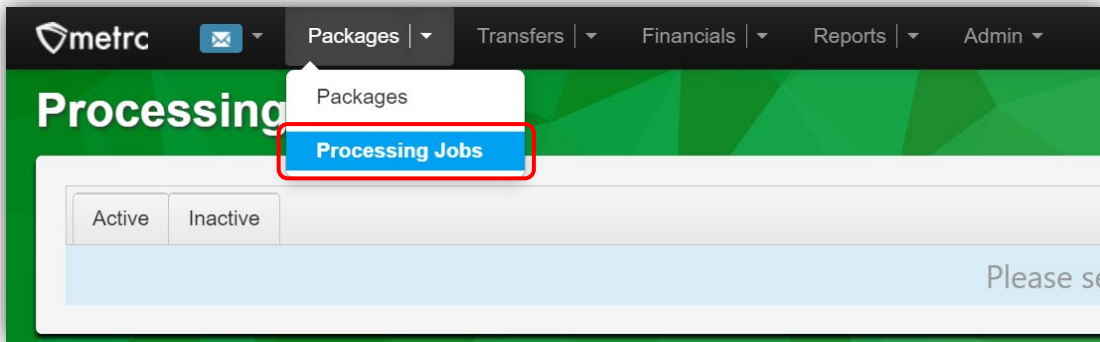

Figure 11: Processing Jobs grid in the Packages dropdown
- Go to the Processing Jobs option found under the Packages area drop-down in the Navigational Toolbar – **see Figure 11**.